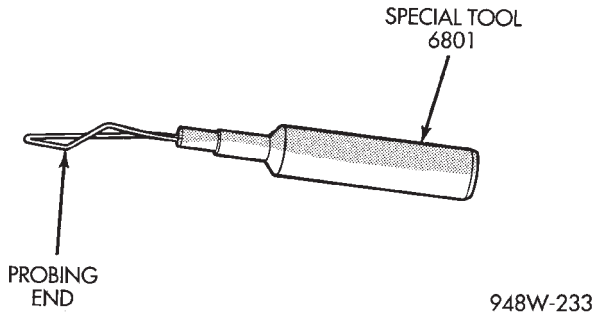

Fig. 5 Probing Tool
• Probing Tools - These tools are used for probing terminals in connectors (Fig. 5). Select the proper size tool from Special Tool Package 6807, and insert it into the terminal being tested. Use the other end of the tool to insert the meter probe.